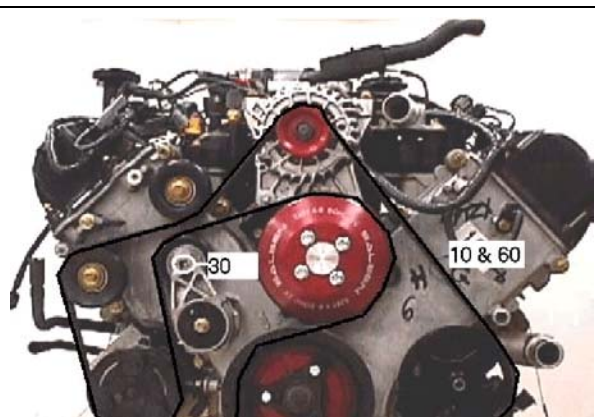

Figure 10
19. For all model years, install the Saleen water pump pulley, ensuring the holes are properly lined up (FIGURE 10).
22. Install the belt in the pattern shown in FIGURE 10. The grooved side of the belt should go against the grooves in the crank and alternator pulleys, and the smooth side of the belt will be against the water pump pulley.